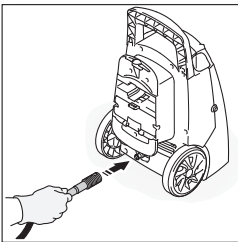

Fig. 3
- Connect high pressure hose to the outlet filter (Fig. 3). Make sure the connection clicks tightly in place. Failure to properly connecting the high pressure hose will result in the hose slipping or popping off immediately upon turning the unit on. Can also cause leaking.